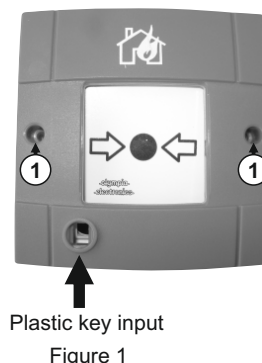

Figure 1
3. During their installation must be attention taken that the distance between two buttons does not exceed 30 m and all buttons should be placed at a height of about 1.4 m from the floor.(Figure 1).
Insert the supplied plastic key into the input (Figure 1) rotate by 90 ° and pull it until the call point will be reset to it's original position.